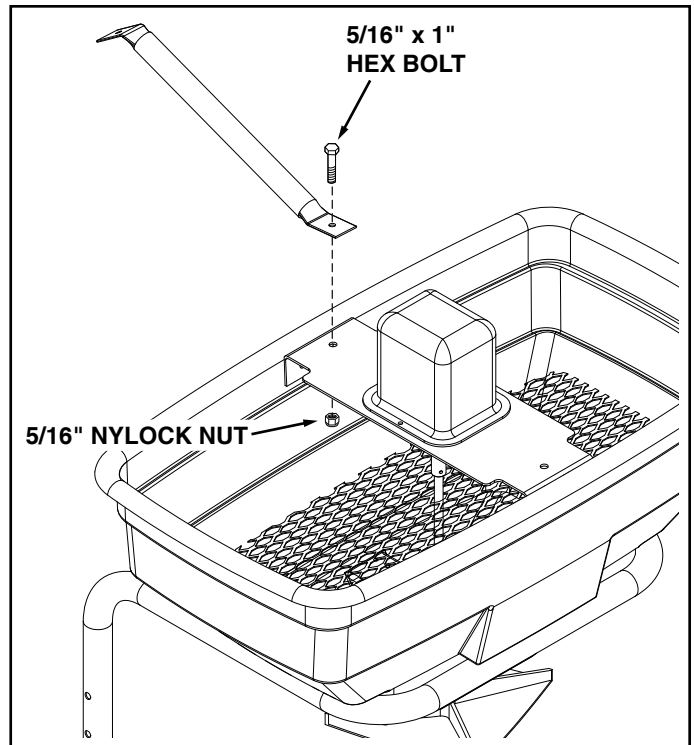

FIGURE 7
14. Attach the control mount tube to the top of the spreader using a 5/16 x 1" hex bolt and 5/16" nylock nut. See figure 7.